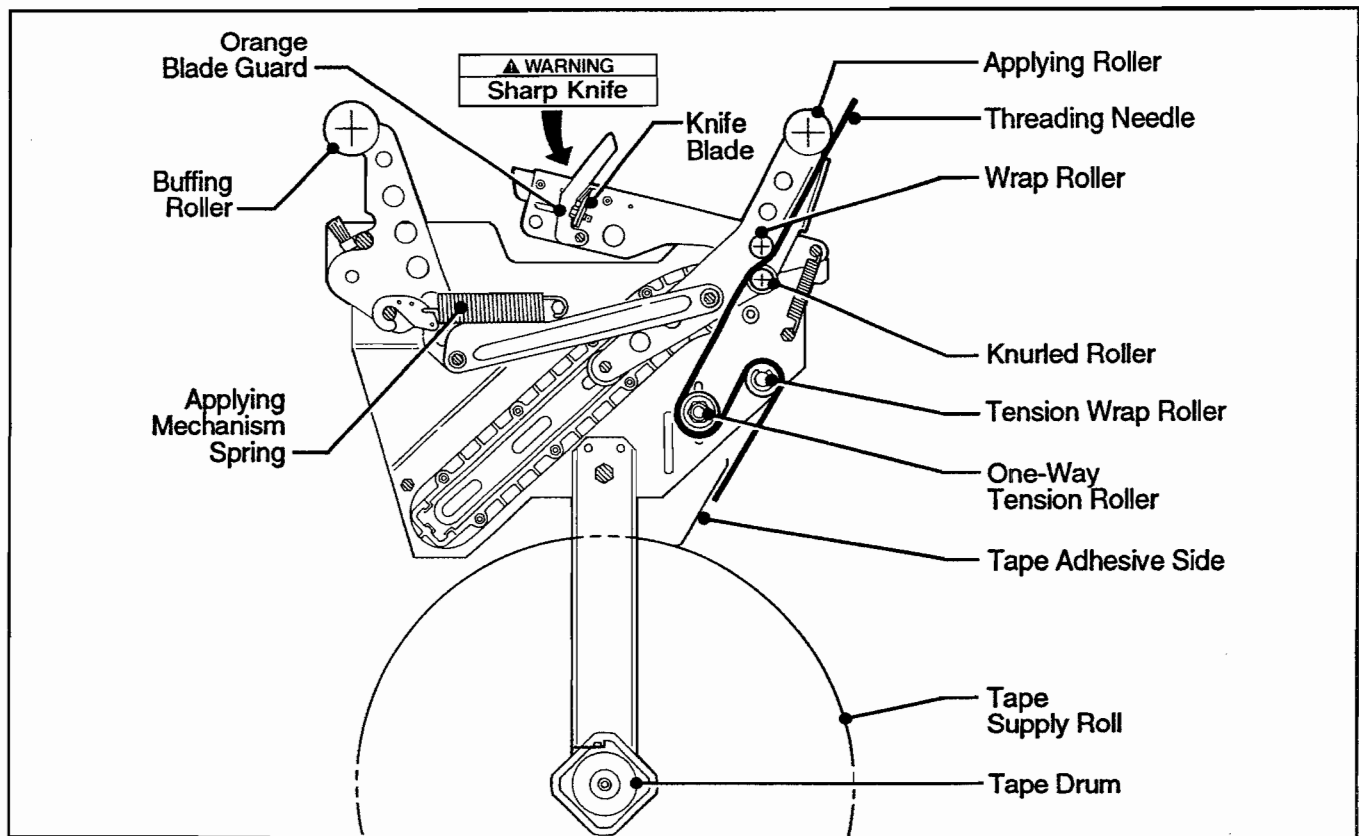

Figure 3-8 – Taping Head Components/Threading Diagram, Lower Head
3. The lower taping head is loaded and threaded in the same manner as the upper taping head. Follow **Steps 1, 2 and 3** on page 24 and also refer to Figure 3-8.